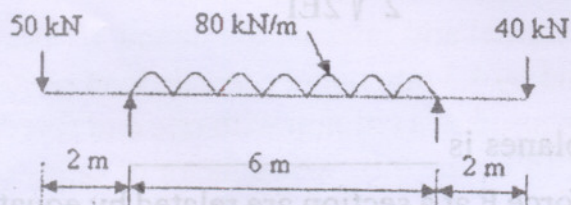

Fig.1
12. Construct SFD and BMD for the beam shown in Fig. 1. Mark the salient values therein. Also locate the points of contraflexure, if any.